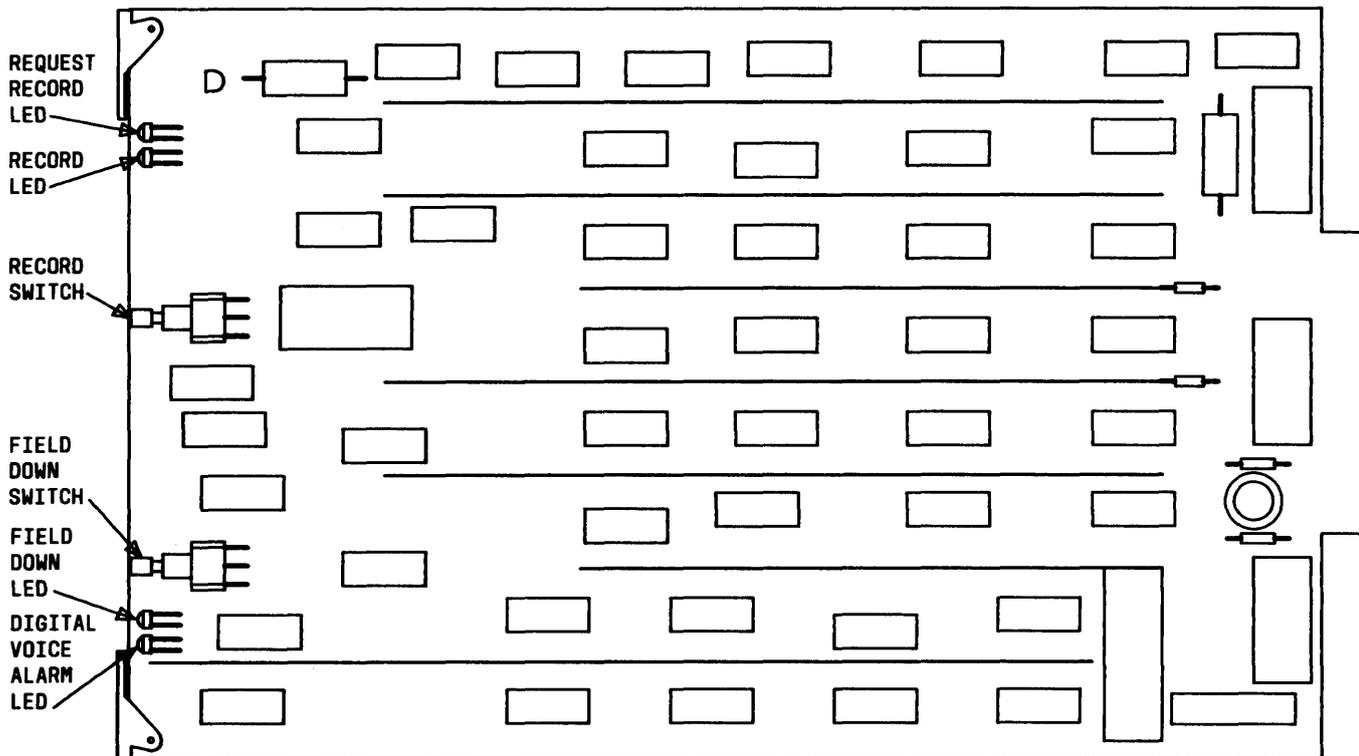

Fig. 3—UD3B Timing and Control Circuit Pack
2.05 *UD3 and UD3B—Timing and Control Circuit Pack:* The UD3 or UD3B circuit pack generates timing and control signals for the 13A. Certain controls and indicators located on the front edge of each circuit pack (Fig. 3) are for control functions. These controls and indicators are described in Table B.